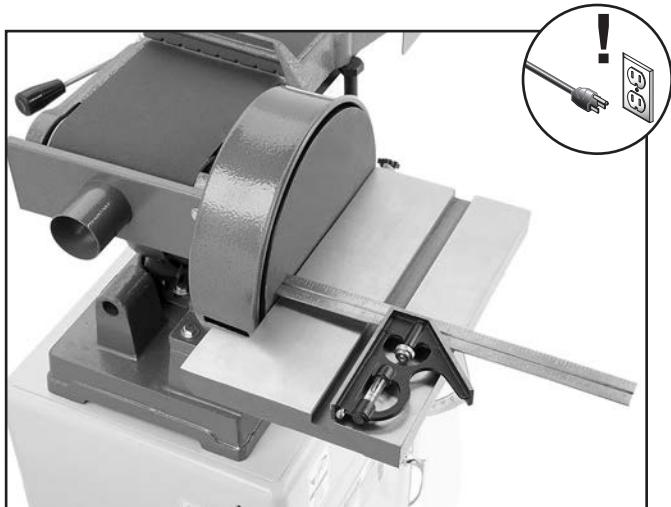

Figure 91. Checking miter slot parallelism with sanding disc.
2. Remove the miter gauge, then place a combination square with the 90° square in the miter slot, as shown in **Figure 91**.